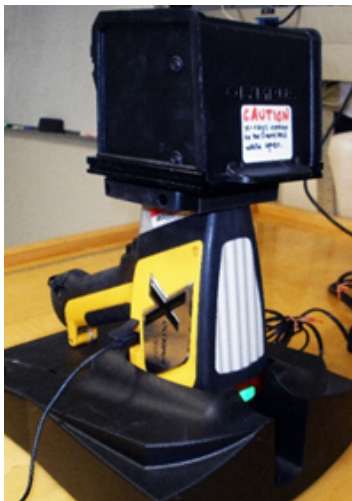

Figure 11. Sample Chamber resting over pXRF nose.
4. The two pegs will fit into the two indents on the analyzer nozzle. Orient the sample chamber so the pegs will fit into the holes and lower the chamber over the nose (Figure 11). The pegs will snap in when inserted.